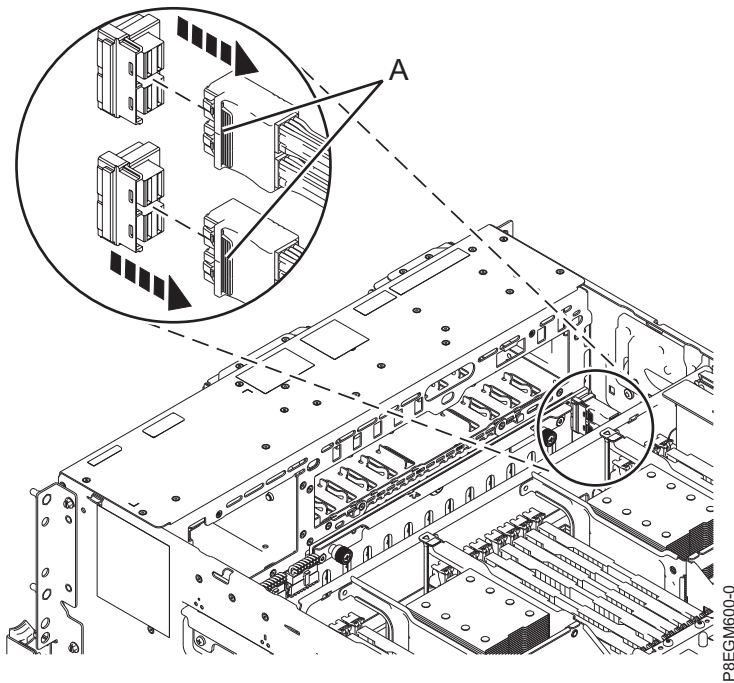

Figure 12. Unplugging the SAS cables from the disk drive backplane
4. Label the front SAS cables that are attached to the SAS RAID internal adapter that you want to remove. Press the latch (A) and unplug the connector of the cable from the disk drive backplane, as shown in Figure 12 on page 15. Leave the other end of the cable plugged in to the P1 or P2 connector on the SAS RAID internal adapter until directed to unplug it.